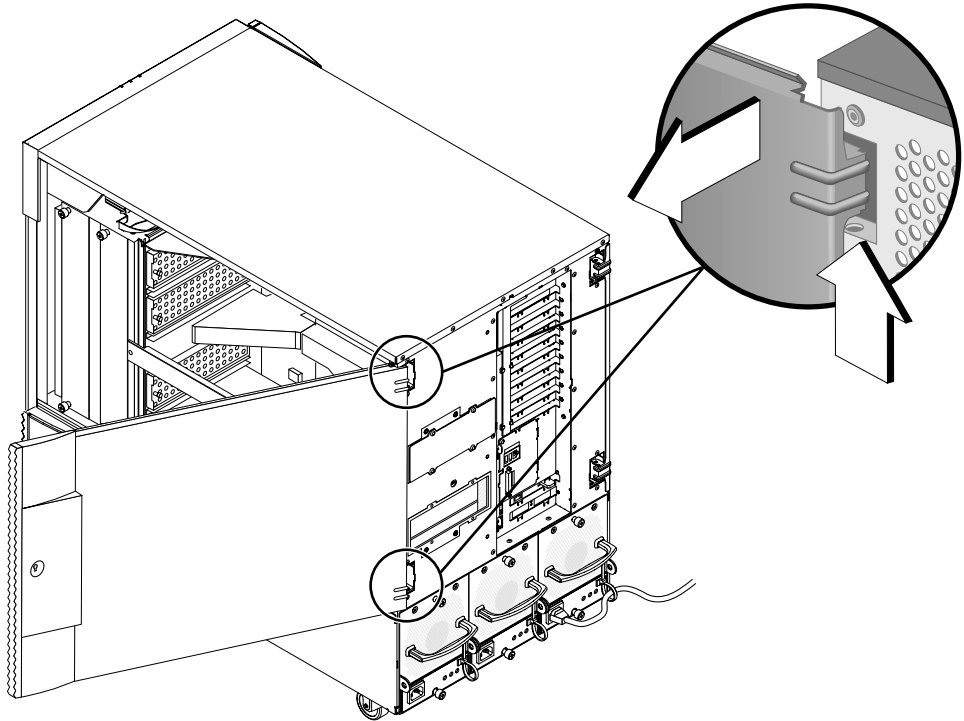

FIGURE 4-2 Opening the Sun Fire V880z Server Enclosure Door
4. Open the Sun Fire V880z server enclosure door (FIGURE 4-2).
3. **Open the Sun Fire V880z server enclosure door (FIGURE 4-2).**